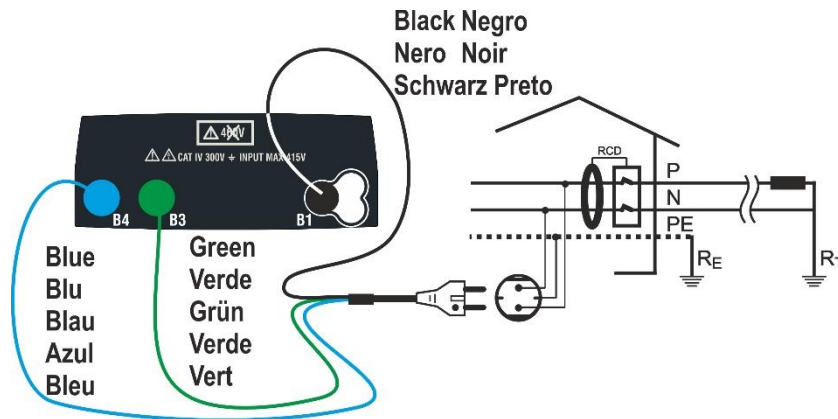

Fig. 4: Instrument connection through mains plug
3. Insert the green, blue and black connectors of the three-pin plug cable into the corresponding inputs B1, B3 and B4 of the instrument. As an alternative, use the single cables and apply the relevant alligator clips to the free ends of the cables. It is also possible to use the remote switch probe by inserting its multipolar connector into the input B1. Connect the plug, the alligator clips or the remote switch probe to the electrical mains according to Fig. 4 or Fig. 4